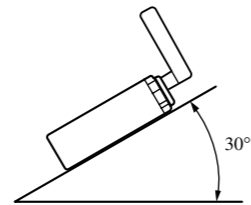

Fig. 12
- Optimum performance is obtained when the unit is installed at an angle of less than 30°. (Fig. 12)